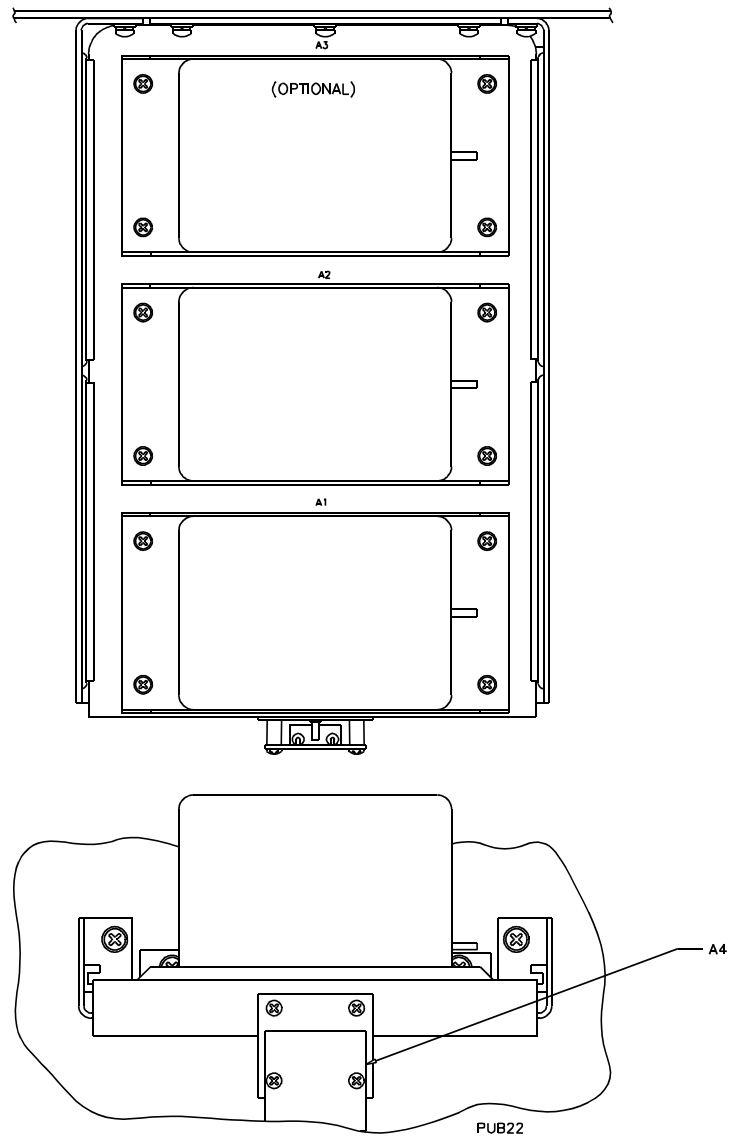

Figure 14.1.5. Pressure Sensor Shelf 7A1A1A7, Front View
14.1.8.1.5 Pressure Mounting Assembly 7A1A1A7 Description. The pressure mounting assembly is located above the rf modem shelf. The assembly provides mounts and interconnections for three identical pressure sensor assemblies (7A1A1A7A1, A2, and A3) as shown on figure 14.1.5. Temperature sensor board (7A1A1A7A4) is mounted on the front of the pressure sensor shelf. Plastic vent tubes from each sensor are joined under the pressure shelf to a tube cross and then routed to the pressure port at the top of the cabinet.